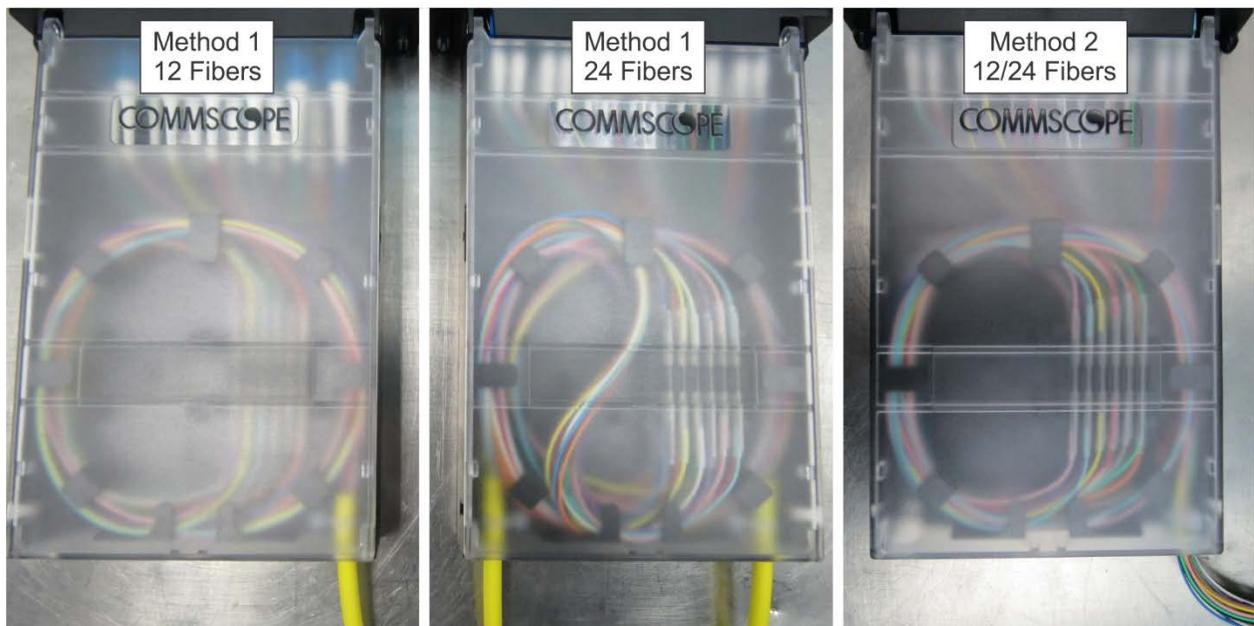

Figure 9. Install and Close Cover
1. Ensure no fibers are snagged, pinched, or too tight in the cassette, then install and close the cover (Figure 9).